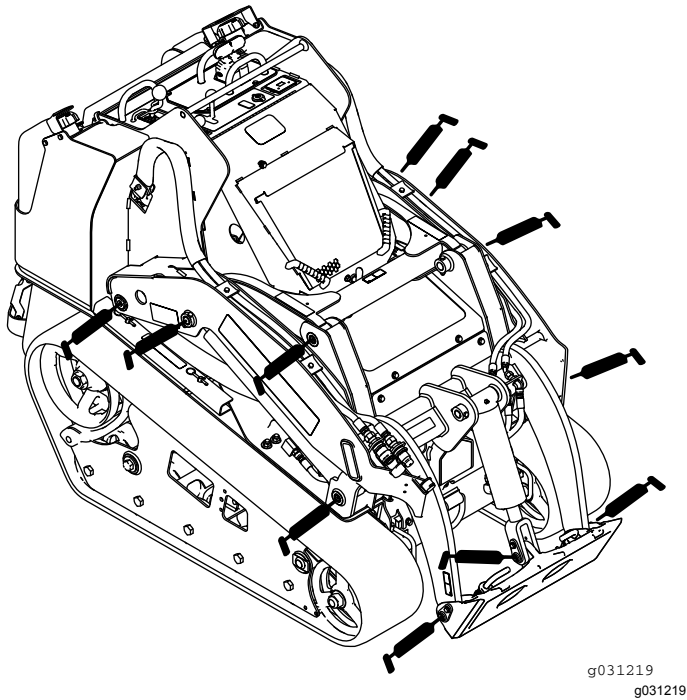
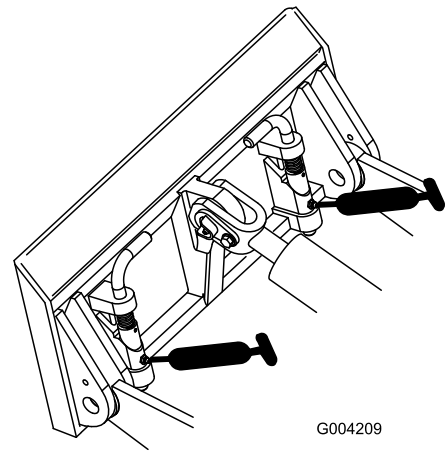

Figure 38
Figure 39
4. Connect a grease gun to each fitting (Figure 38, Figure 39, and Figure 40).